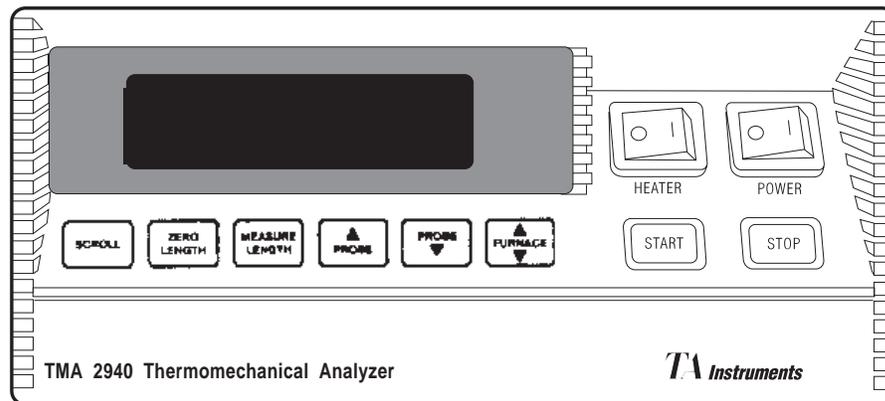

Figure 2.14
1. Make sure the instrument **POWER** switch (see Figure 2.14) is in the OFF (O) position.